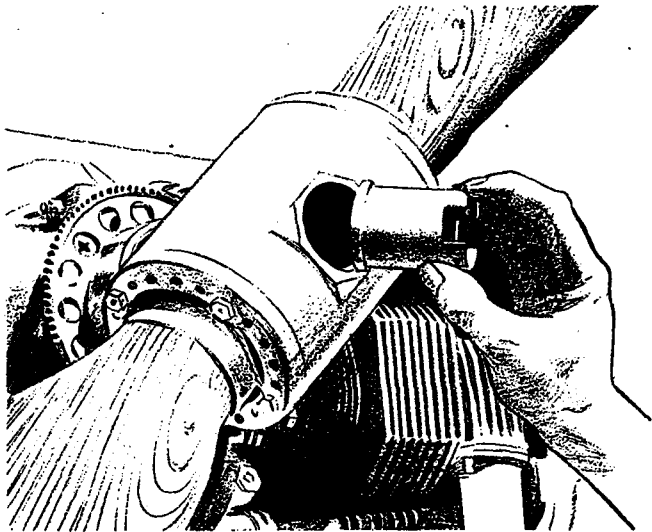

Figure 7—Inserting Shaft Nut
(4) Install propeller shaft nut, using bar and wrench to tighten. Tighten nut to 200 foot-pounds of torque—100-pounds pull on a 2-foot bar. (See figures 7 and 8.)